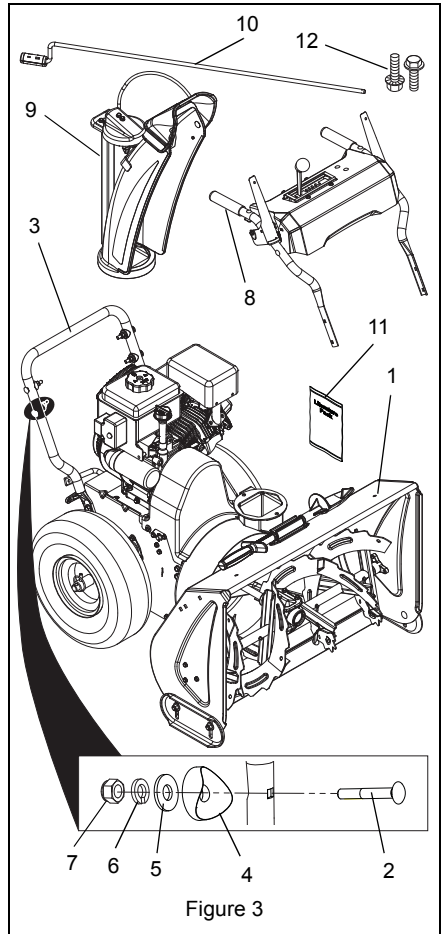

Figure 3
Check the contents of your package for the parts listed below (Figure 3):
3. Secure lower handlebar to unit using two 3/8 in x 3/4 in. hex head serrated flange grade 5 bolts (Figure 3, Item 12).